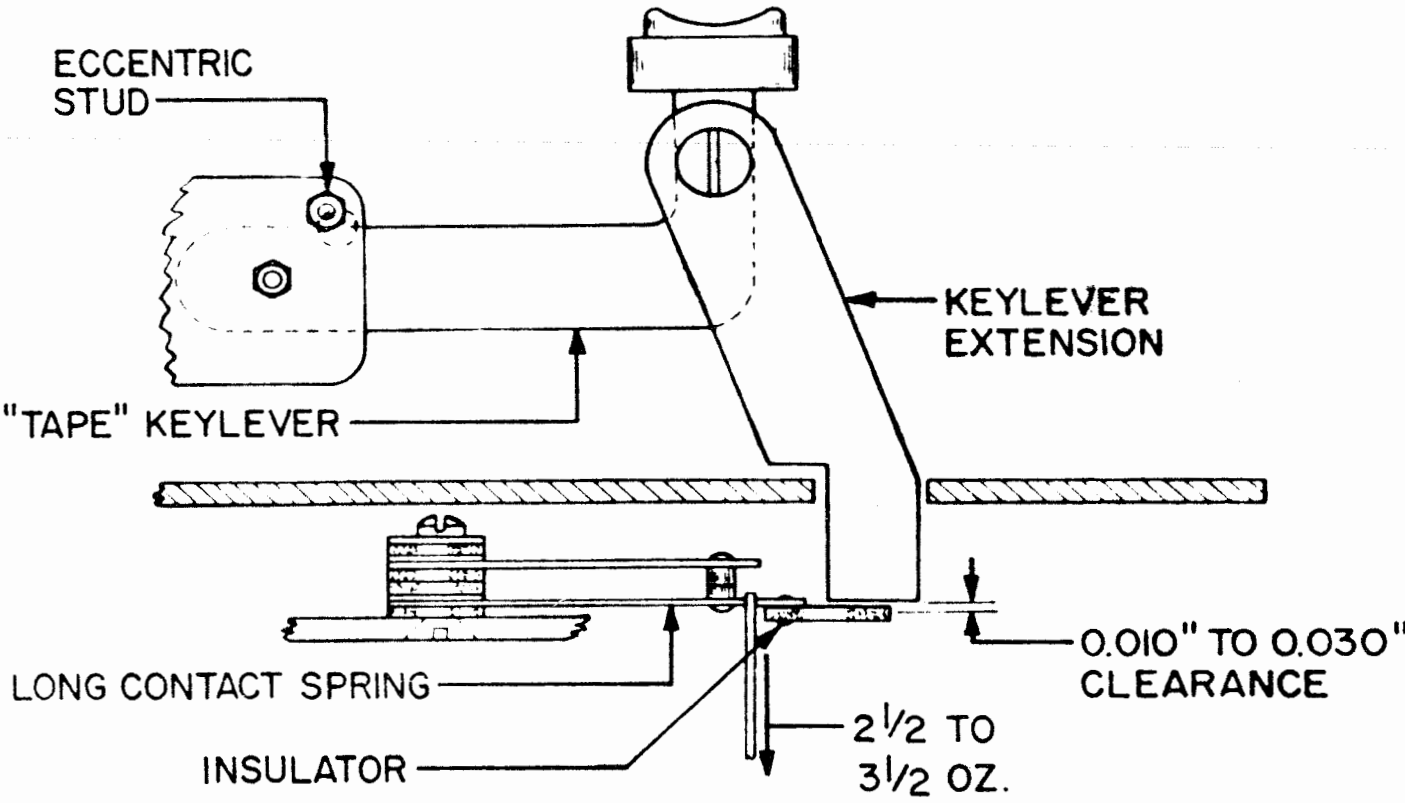

Figure 59
- (2) It should require minimum 2-1/2 ounces, maximum 3-1/2 ounces to separate the contacts. See Figure 59.
- 10.06 Tape-keylever Eccentric Stud: With the contacts closed and the tape keylever held against its eccentric stud, there should be minimum 0.010 inch, maximum 0.030 inch clearance between the keylever extension and the insulator on the long contact spring. See Figure 59.